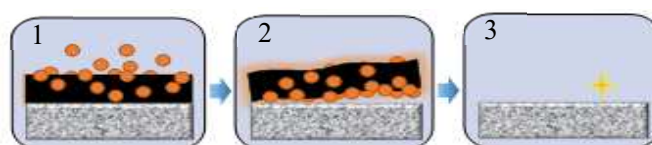

Figure 3: Processing Mechanism of Paintpeel Series
3. the coating film swollen by washing with water or brushing is removed (Figure 3). Coating film recovery after peeling is easy because of the coating film swelling type.